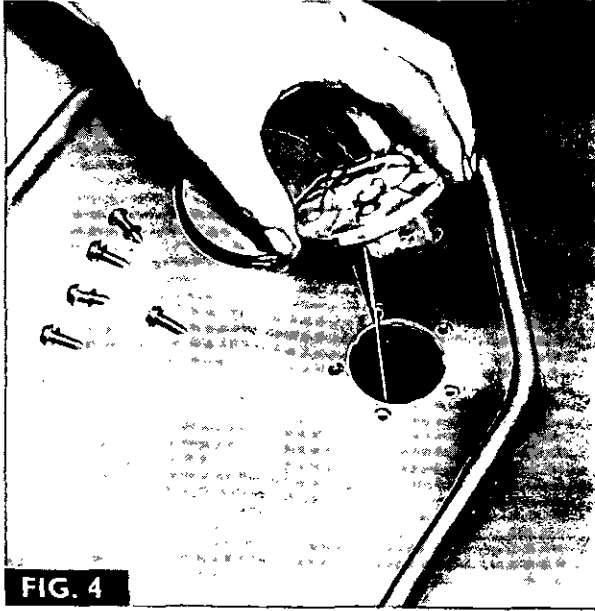

FIG. 4
3. Manoeuvre the sender unit out through the aperture in the tank (Fig. 4).